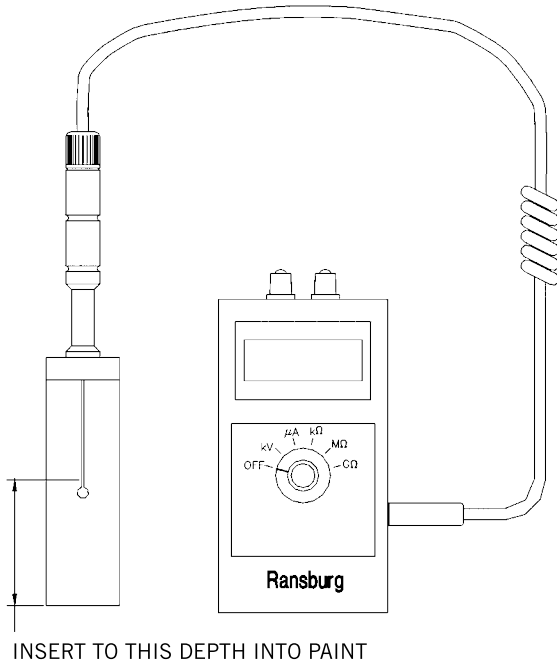

Figure 6: Paint Tester Operation
1. Set the meter dial to the MΩ scale (see Figure 6). Plug the paint probe into the side of the meter.
2. Immerse the probe vertically into a well-mixed representative sample of the subject paint until the holes at the bottom of the slots in the probe sleeve are submerged (see Figure 6). Take a reading within 5 to 10 seconds of submerging the probe.